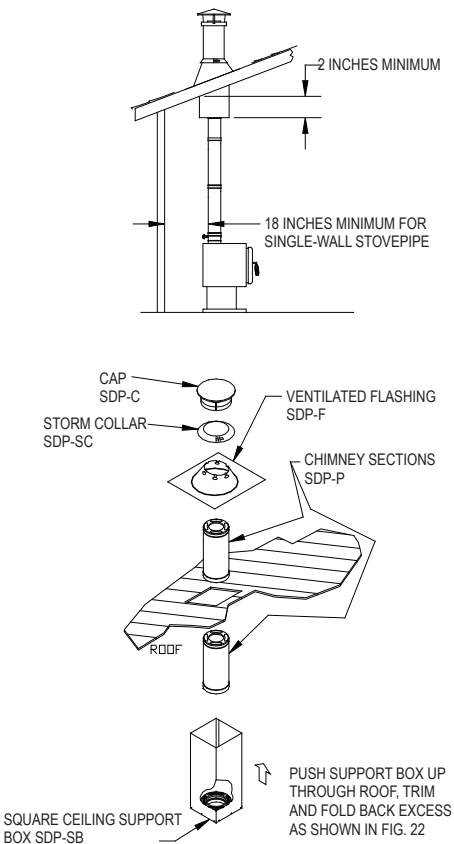

Figure 21
2. Cut Openings: Cut a roof opening directly above the appliances' flue outlet collar, just as in a Ceiling-Supported Installation (Steps 1 thru 5). If a separate ceiling and roof exists, as shown in **Figure 20**, (Low Attic), first cut and frame a ceiling opening as described in Ceiling-Supported Installations (Step 2). Refer to Table 2 for clearance and framing specifications. If it is desired to install through a cathedral ceiling (**Figure 21**), then the hole is cut in the roof.